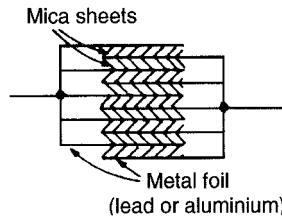

Figure 6.14
2. **Mica capacitors.** A typical older type construction is shown in Fig. 6.14.